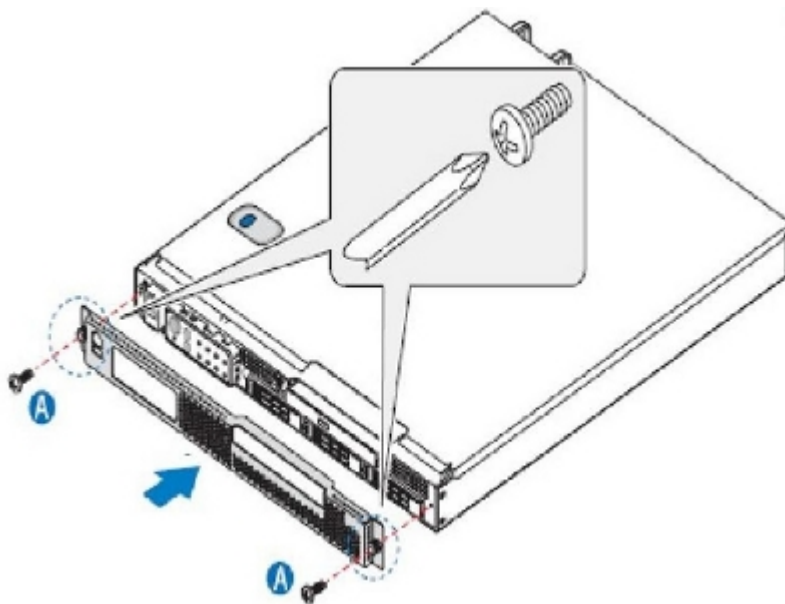

Figure 26: Replacing the Front Bezel
1. Replace the front bezel, insert the screws ("A" in Figure 26: Replacing the Front Bezel), and tighten them far enough to hold the bezel in place.